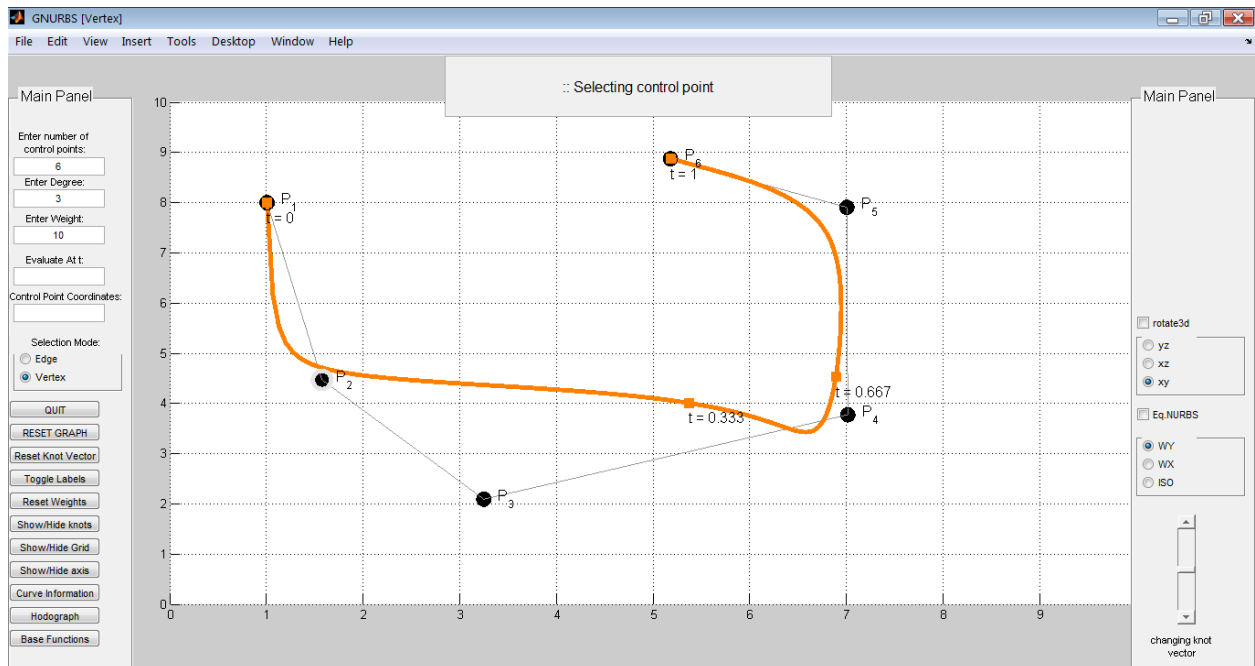
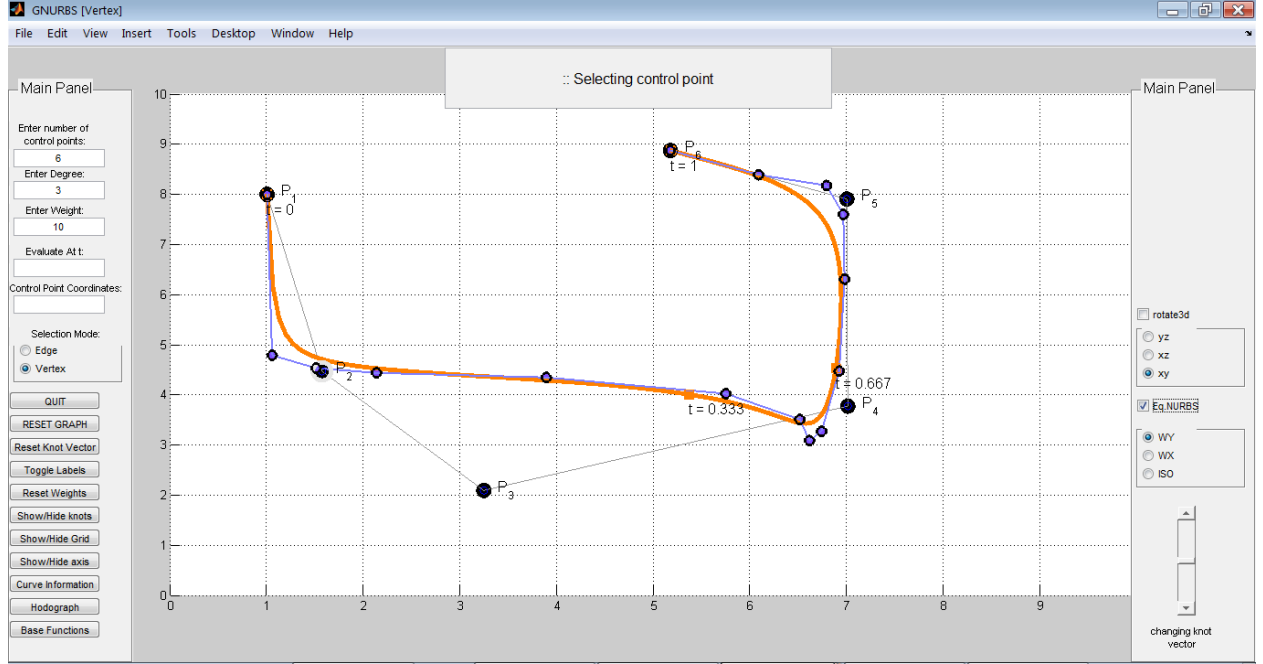

Figure 6: Changing the weight of P_2 in the y direction to 10 from the “Enter weight” field of the left panel.
Figure 7: Equivalent higher order NURBS curve of GNURBS curve in Figure 6.
Also, the user can specify the desired exact value of a weight in the “Enter Weight:” field (3) in the left panel. For example, to change the weight of P_2 in the y direction to 10, select WY from right panel (21), then insert 10 in the “Enter Weight” field and press enter (see Figure 6).
It can be proved that “every GNURBS curve of degree p and dimension m can be exactly transformed into a NURBS curve of degree $m \times p$ ” (see reference paper above). In order to see the equivalent higher order NURBS curve to a GNURBS curve, check box (20) “Eq. NURBS” in the right panel. In Figure 7, the equivalent curve of Figure 6 is shown. It is noted that in the case of having identical weights in all directions (classic NURBS), checking this box will simply show an order elevated NURBS curve.